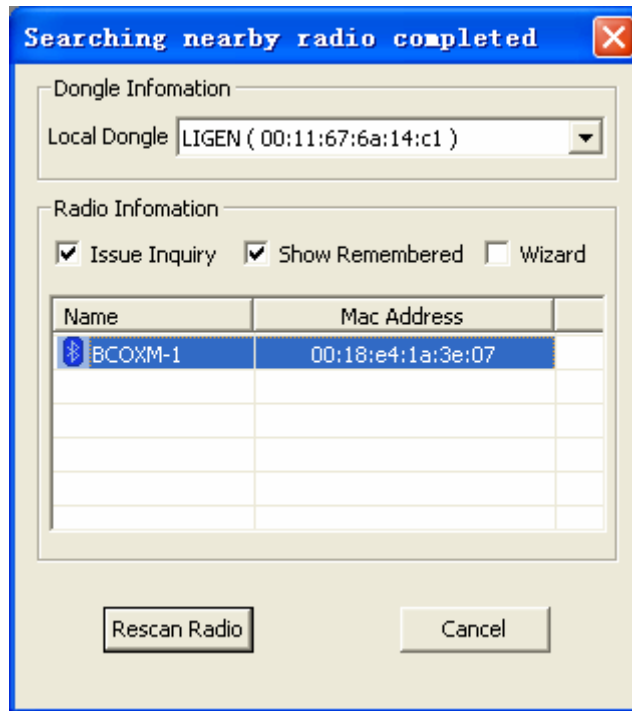

Figure 3-23
(2). Select “Issue Inquiry” and “Show Remembered” in the interface as shown in Figure 3-23. The following operations are the same as the first method.